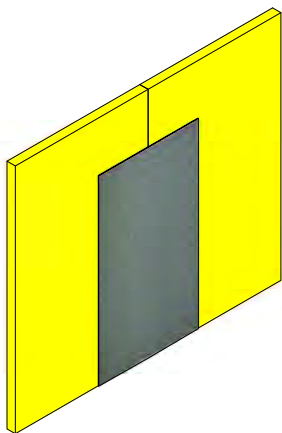

Figure 1
1. Mix SENERSHIELD-R or SENERSHIELD-VB per the product bulletin instructions. Apply a generous receiving coat to completely saturate the SHEATHING FABRIC over the joint and out 2 to 5 inches on each side. (See Figure 1)